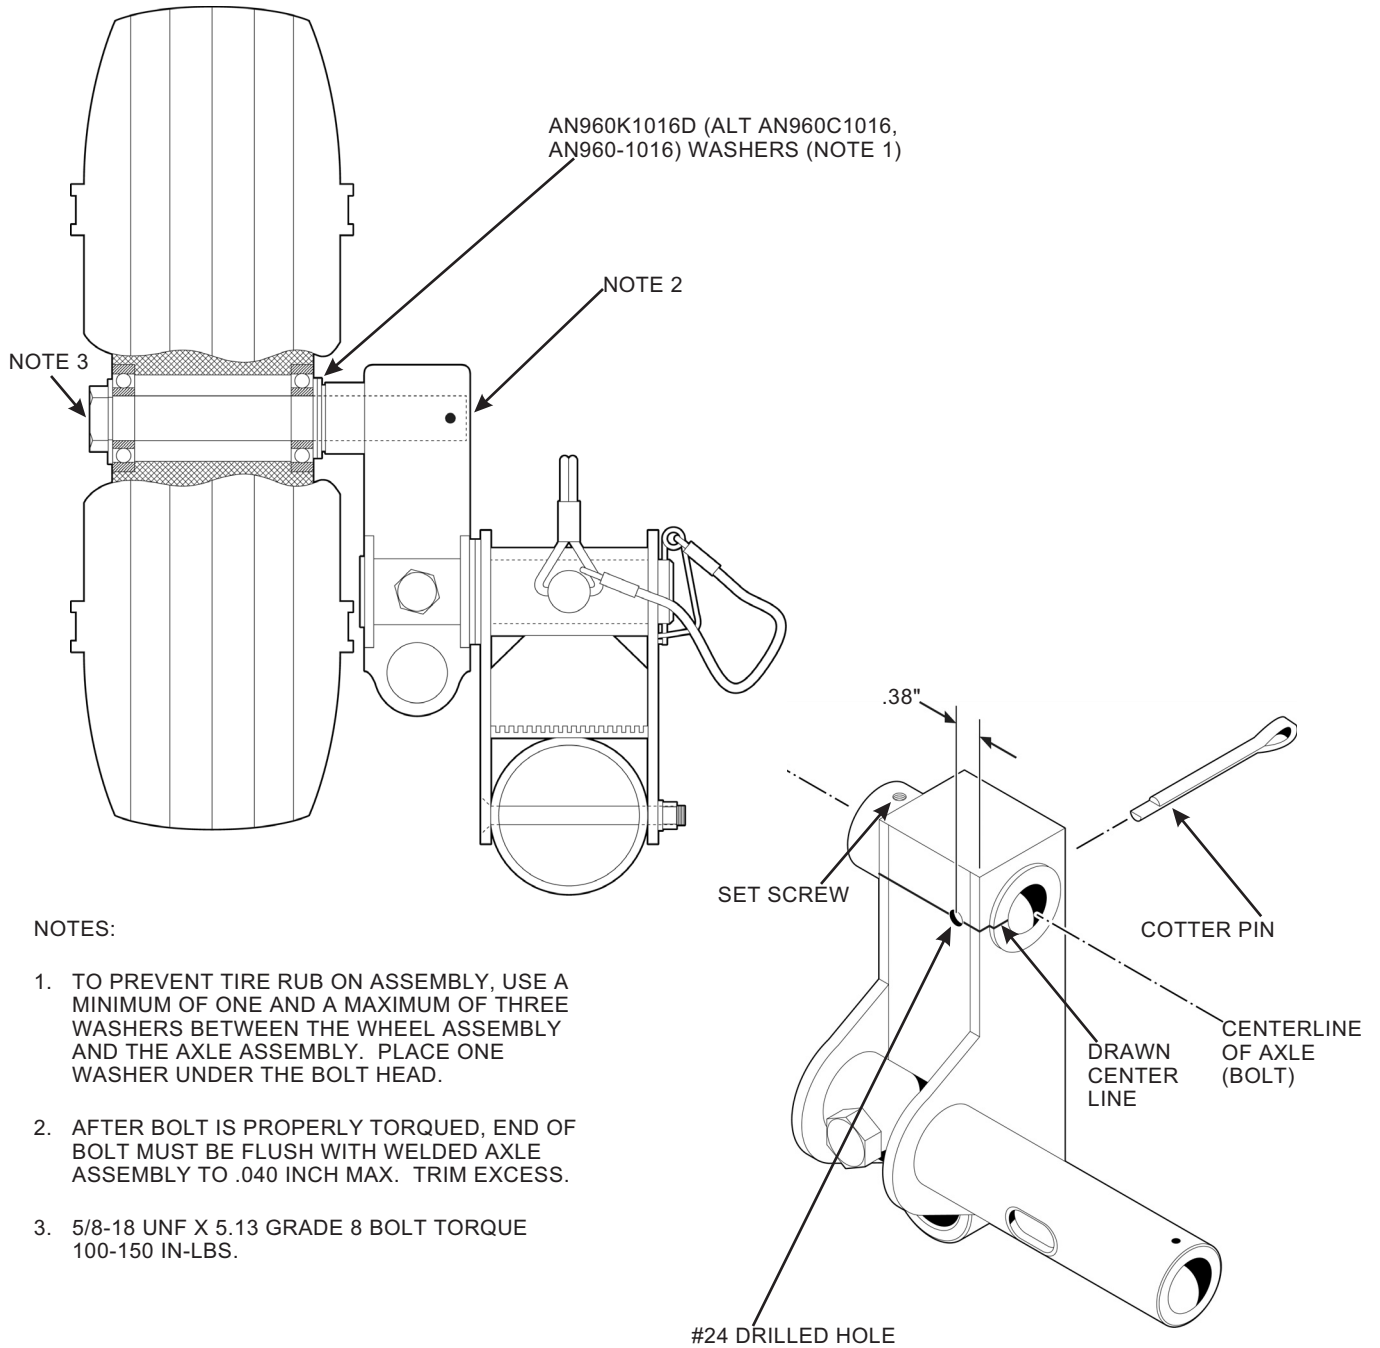

Figure C1B-025-1. Ground Handling Wheel Assembly
- Ensure wheel assembly is installed on axle with a minimum of one and a maximum of 3 washers between wheel and welded axle assembly, as shown in Figure C1B-025-1, to provide clearance between tire and axle assembly. Also ensure one washer is installed between bolt head and wheel assembly.
- c. Loosen set screw and torque bolt (Fig. C1B-025-1, NOTE 3) to 100-150 inch pounds. End of bolt must be flush with welded axial assembly to .040 inch max. Check wheel for axial play; none allowed. If wheel has axial play, check wheel for proper shimming. Repair as necessary in accordance with HMI Appendix A. Torque set screw to 20-25 inch pounds.
- d. Draw a center line across middle of axle bolt as shown in Figure C1B-025-1, continue line around the welded assembly.